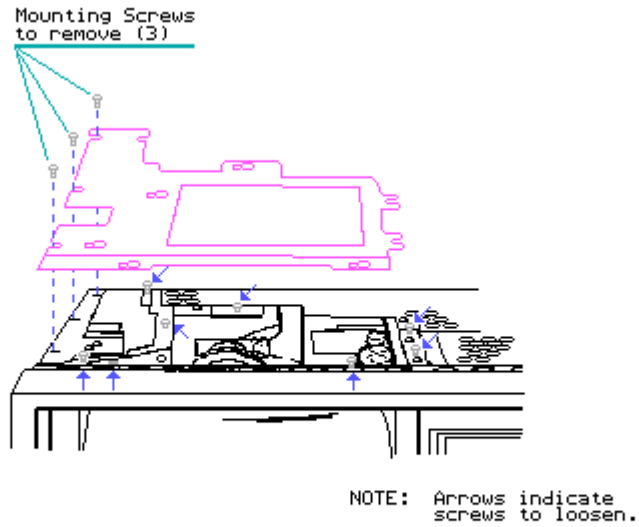

Figure 7-25. Removing High Voltage Access Plate
- Using a Torx screwdriver, loosen (DO NOT REMOVE) the 11 mounting screws that secure the high voltage monitor access plate to the system chassis. Remove only the three mounting screws indicated in Figure 7-25.